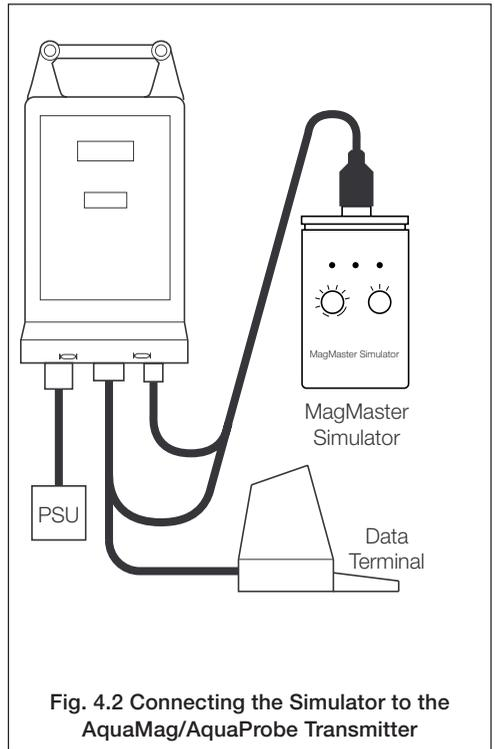

Fig. 4.2 Connecting the Simulator to the AquaMag/AquaProbe Transmitter
4.2 AquaMag/AquaProbe – Fig. 4.2